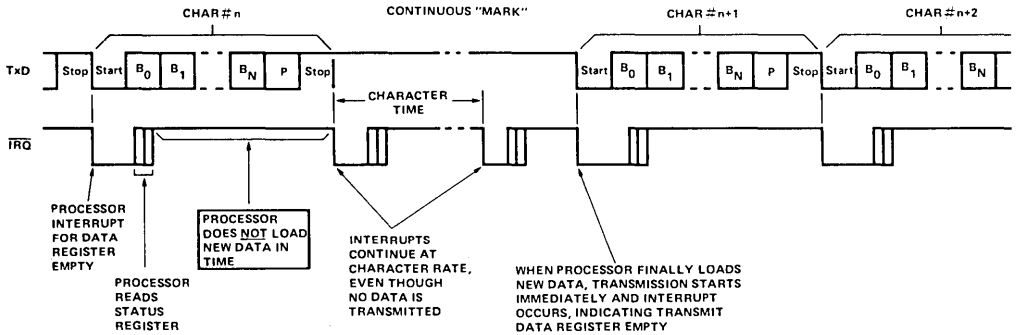

Figure 4-3. TRANSMIT DATA REGISTER NOT LOADED BY PROCESSOR
4.1.3 Transmit Data Register Not Loaded by Processor (Figure 4-3)